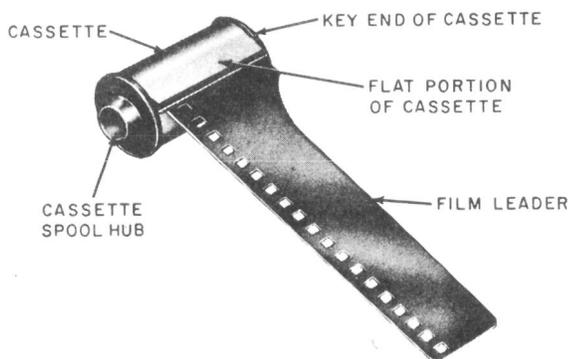

Fig. 7—Cassette With Film
- (1) Plug the power cord of the KS-14776 camera into a suitable receptacle.
- (2) Open the KS-16007 camera by turning the lock knob clockwise.
- (3) Remove a cassette of film (Fig. 7) from its container (see 1.10), and straighten the film leader which extends from the cassette. Raise the cassette retaining in the camera so the key end of the cassette spool engages the slot in the film winder, turning the rewind knob as required to facilitate the operation. Lower the cassette retaining arm.